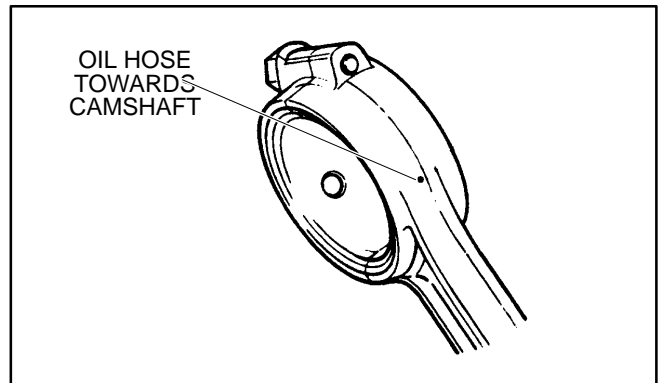

FIGURE 7-20. CONNECTING ROD OIL HOLE
4. Position the piston and rod assembly in the cylinder block with the connecting rod oil hole facing towards camshaft (Figure 7-20).